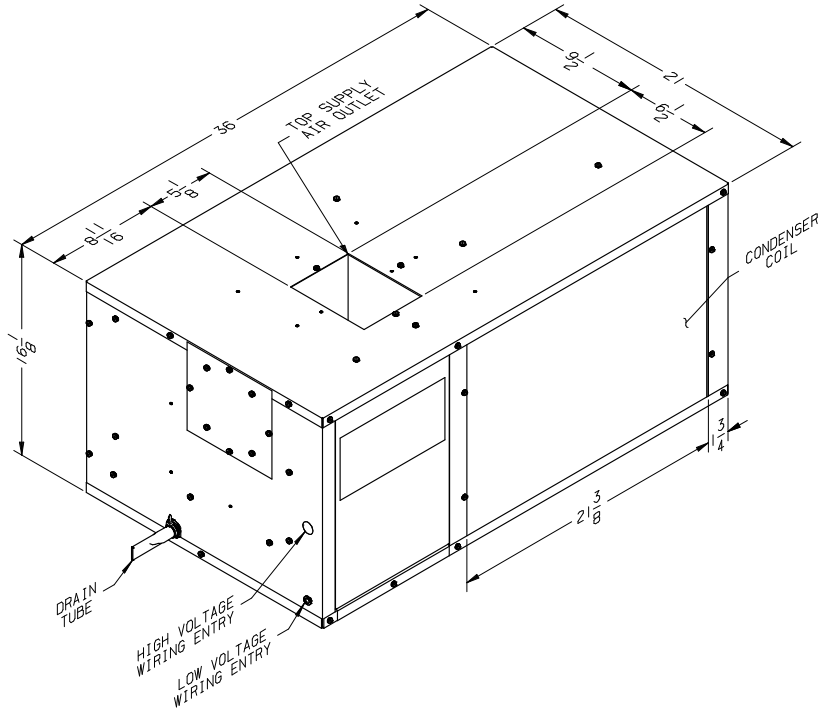

FIGURE 1
This unit may be mounted and ducted in any of three ways as described in the following text. Any mount method selected must allow for unrestricted air flow to and from the condenser coil. With perimeter mount systems, the condenser coil and wirebox access must be facing outboard (See Figures 1 and 2).
The usual mounting and ducting schemes are described (See Figures 1 and 2).
- b) A duct adaptor kit #6633-6151 consists of 4 10” diameter sheet metal starting collars. The pre-mounted collar mounts as shown in Figures 1 and 2 to the end of the unit after removal and discard of the end shipping plate and attached styrofoam block. **Do not remove the top shipping plate when using the end outlet.** The shipping plates and styrofoam blocks allow selection of top or end conditioned air discharge. The blower system will not allow for top and end discharge simultaneously. When removing